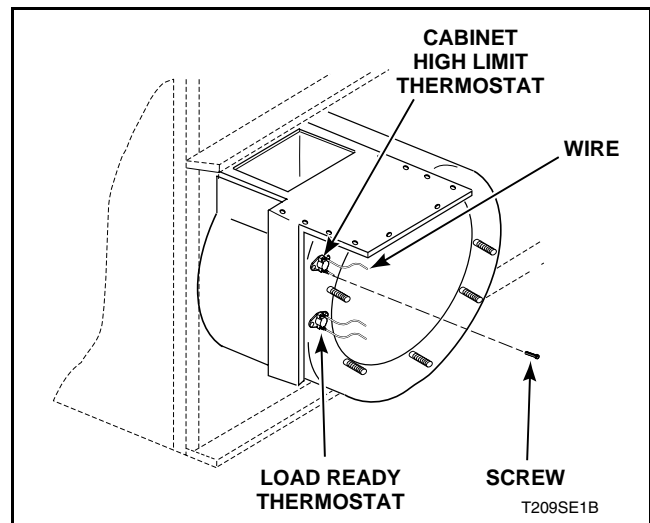

Figure 10
- Disconnect wires from thermostat. Refer to *Figure 10*.